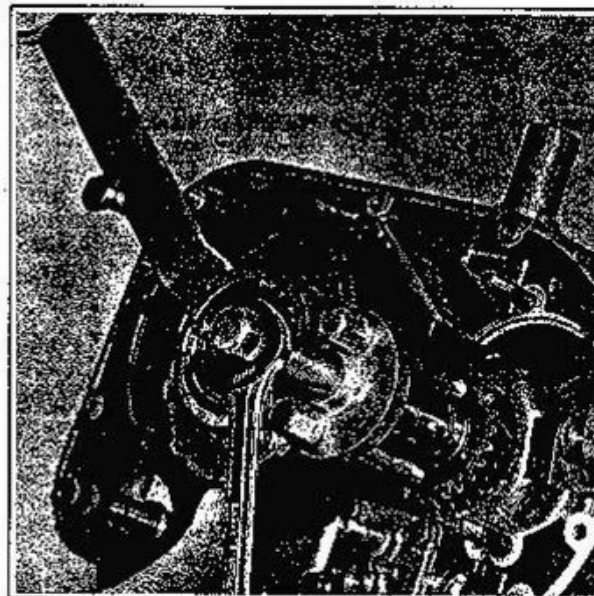

Figure 3D-39. Removing Clutch Drive Gear
**REMOVING SHIFTER PAWL CARRIER (See Figure 3D-41)**